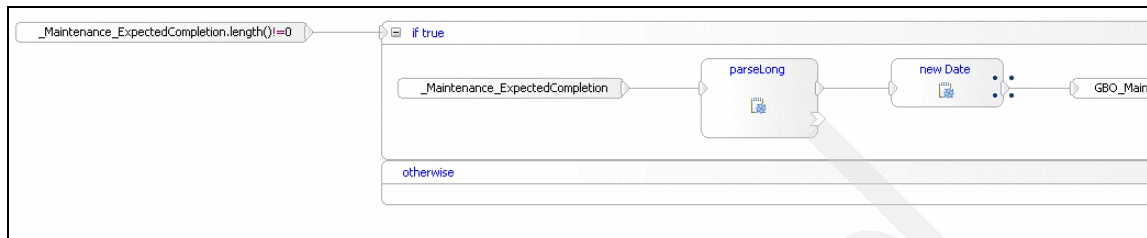

Figure 3-23 Transformation
29. Wire the conditional processing logic together, as shown in Figure 3-23.